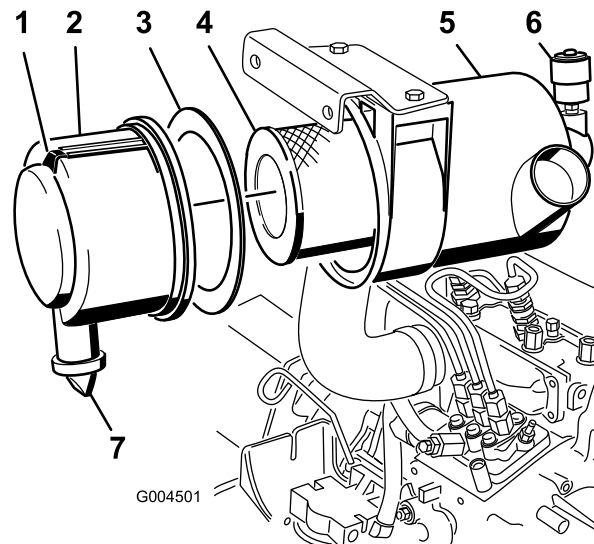

Figure 43
- Service the air cleaner filter when the air cleaner indicator (Figure 43) shows red or every 400 hours (more frequently in extremely dusty or dirty conditions). Do not over service the air filter.
- Pull the latch outward and rotate the air cleaner cover counter-clockwise (Figure 43).
- Remove the cover from the air cleaner body (Figure 43).
- Remove and replace the primary filter (Figure 43).
6. Ensure that the foam gasket is in place in the cover and that it is not torn or damaged (Figure 43). If it is damaged, replace it.
- A. Remove the rubber outlet valve from the cover (Figure 43).
10. Reset the indicator (Figure 43) if showing red.